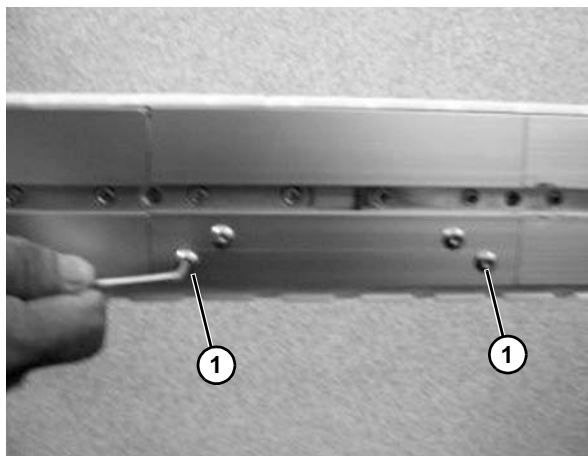

Figure 58
1. Loosen the screws (**Figure 58, item 1**) on the beam section flanges.